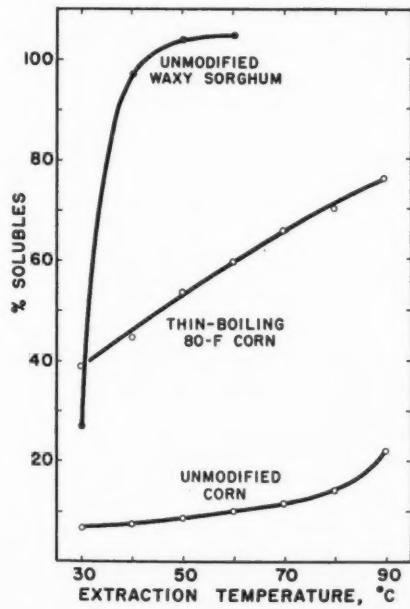

Fig. 14. Solubility of various starch films (dried at 80°C).
We have devised a simple test for evaluating both the extent and the strength of associative bonding within a starch film (1). The starch paste or dextrin solution is cast as a film on stainless-steel plates, then dried under carefully controlled conditions of humidity and temperature. This gives a free film which is analogous to the sizing on a sheet of paper. This film is extracted with water at various temperatures, and the amount of starch substance which dissolves is determined. Figure 14 illustrates the solubility behavior of films from three very different starches. A film of unmodified waxy sorghum